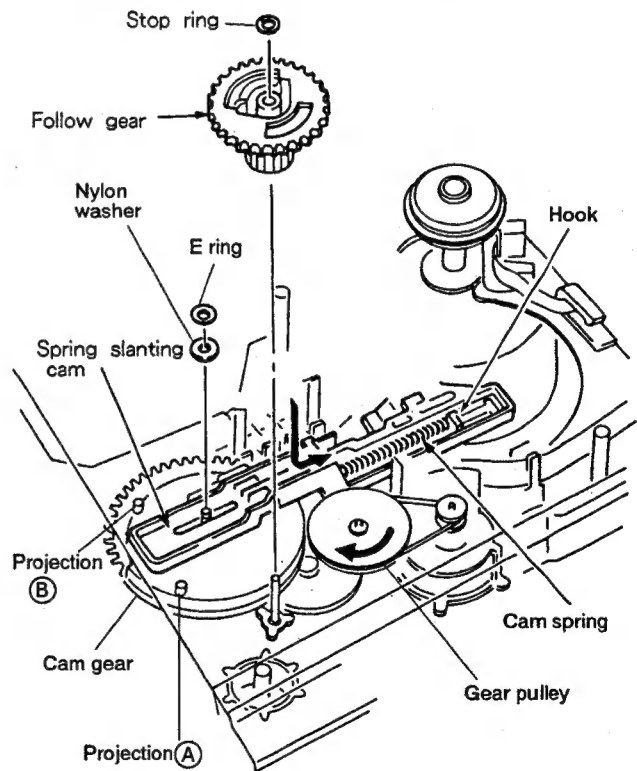

Fig. 13
- ③ Install a nylon washer and an E ring, and hang the cam spring on the hook. (Fig.13)
Note: The cam gear and spring slanting cam as shown in Fig.13 are positioned when installing the slide cam.
- ③ Install the stop ring. (Fig.13)
- ① Set the position of projection A and B of the cam gear by turning the gear pulley clockwise by hand as shown in Fig.13.